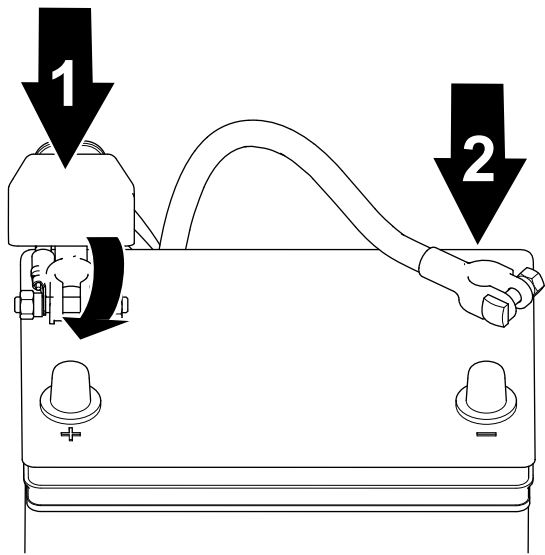

Figure 38
1. Connect the positive cable to the battery and tighten the battery-clamp nut (Figure 38).
2. Connect the negative cable to the battery and tighten the battery-clamp nut (Figure 38).